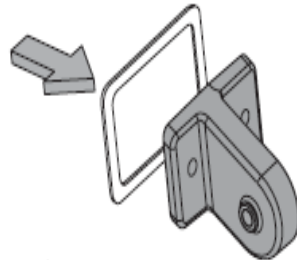

Fig 2
- 2 Attach self adhesive gasket to knuckle arm. (Fig 2)